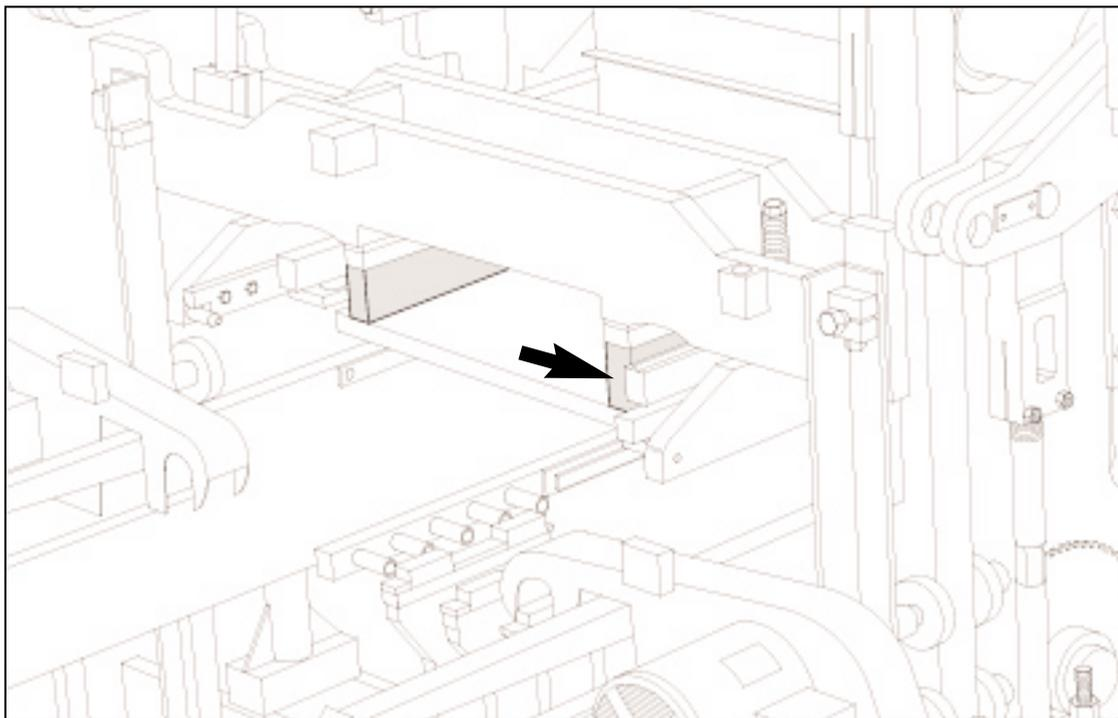

Figure 4.62 95mm (3 3/4") BLOCKING UNDER STRIPPER HEAD FRAME.
4.4.9 The ULTRAPAC II is now ready for the installation of the mold assembly. Follow the directions for installing an attachment in section 5 of this manual. When installing the stripper head, use **356 mm [11"]** long bolts (**part #087159**) and insert **95mm [3 3/4"]** of blocking in addition to the **38mm [1 1/2"]** blocks already affixed to the stripper head frame (figure 4.62).